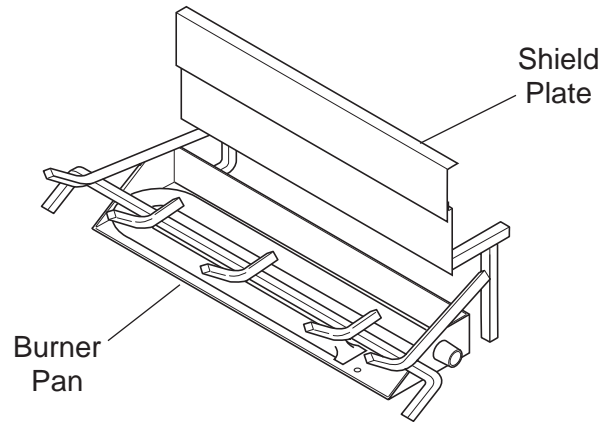

Figure 18 - Sliding Shield Plate Down Back of Burner Pan
1. Slide shield plate down back of burner pan. *See Figure 18.*